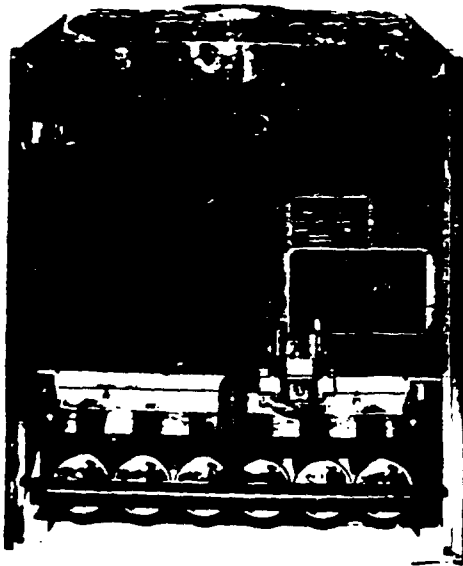

FIG. 11
4. Attach the jacket liner to the side panels with #8 x 3/8" sheet metal screws. LEAVE ALL JACKET SCREWS SLIGHTLY LOOSE UNTIL ENTIRE JACKET IS ASSEMBLED. Drape the loose end of the jacket liner insulation over the canopy (see Figure 11).